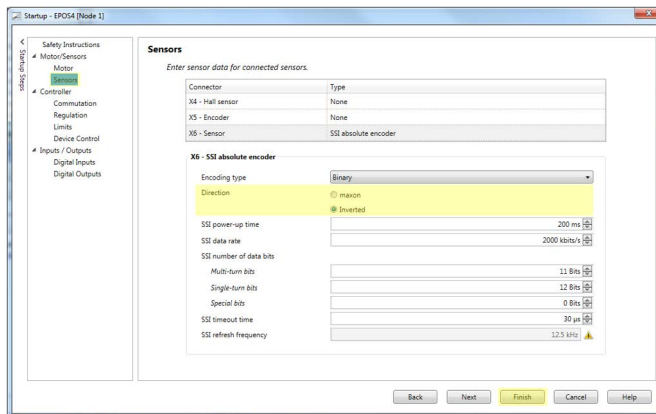

Figure 8-127 Adjustment of SSI commutation offset value | Toggle sense of rotation
d) If the indication decreases, open the «Startup» wizard \ «Motor/Sensors» and select «Sensors». Toggle the sense of rotation by changing the active checkbox «Direction» (→Figure 8-127). Click «Finish» to close the wizard and verify the correct setting as described above.